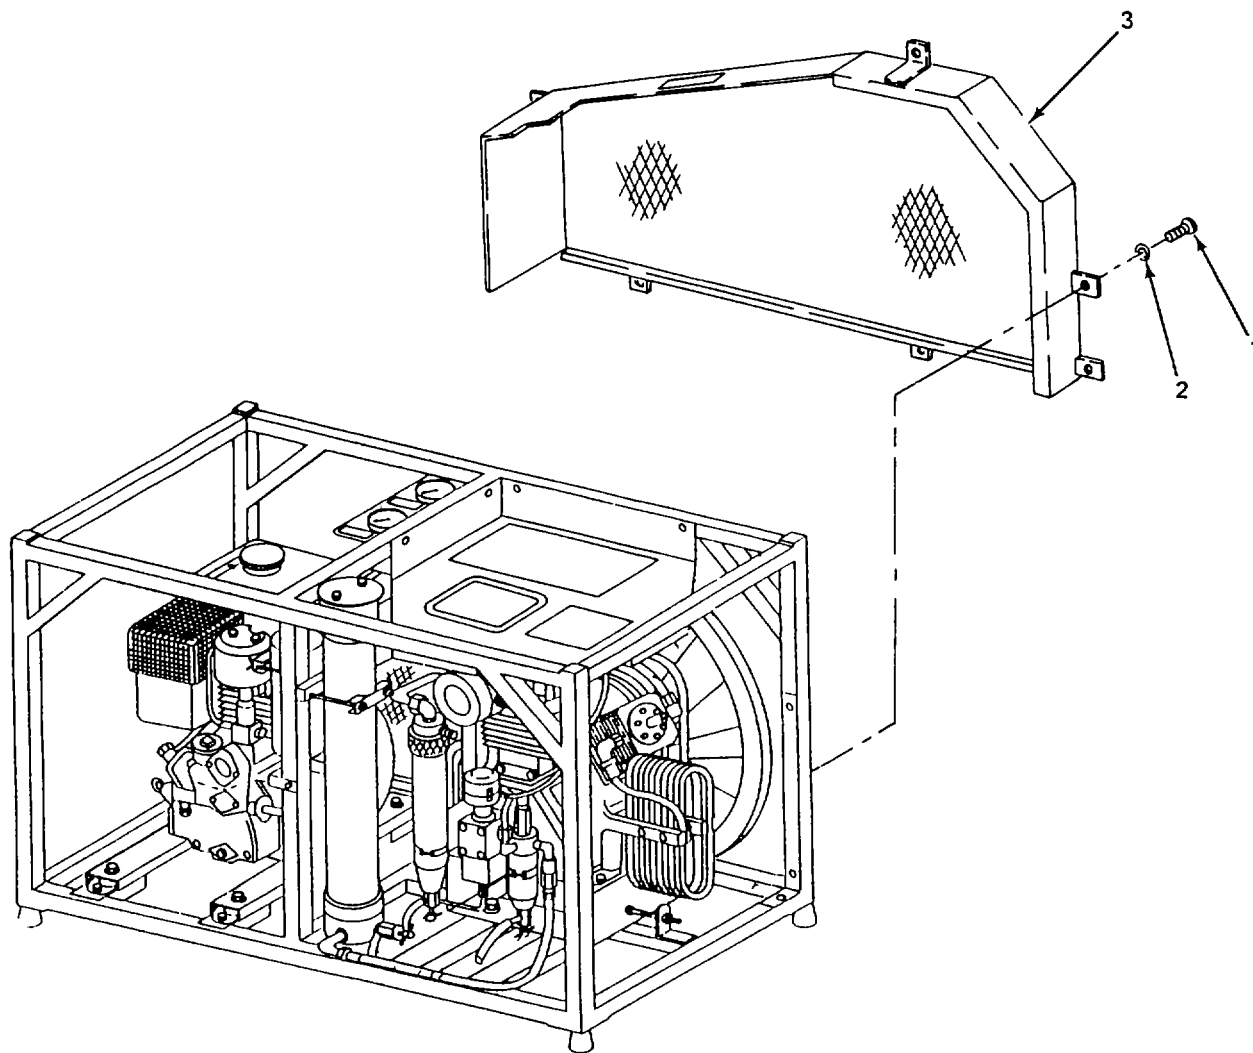

Figure 4-1. Drivebelt Guard, Replace.
**Replace.** (figure 4-1)
- (1) Remove seven bolts (1) and washer (2) and remove belt guard (3).
- (2) Install belt guard (3) and secure with seven bolts (1) and washers (2).